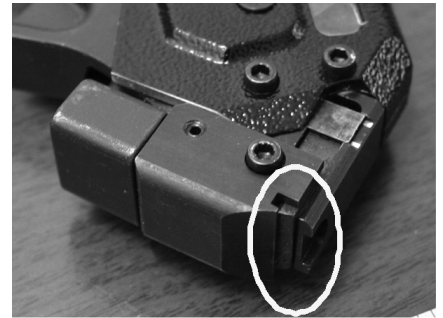

Figure 5
6. Open the tension handle slightly so that the knife retracts from its full stroke; it should be overlapping the blade edge - Figure 5.